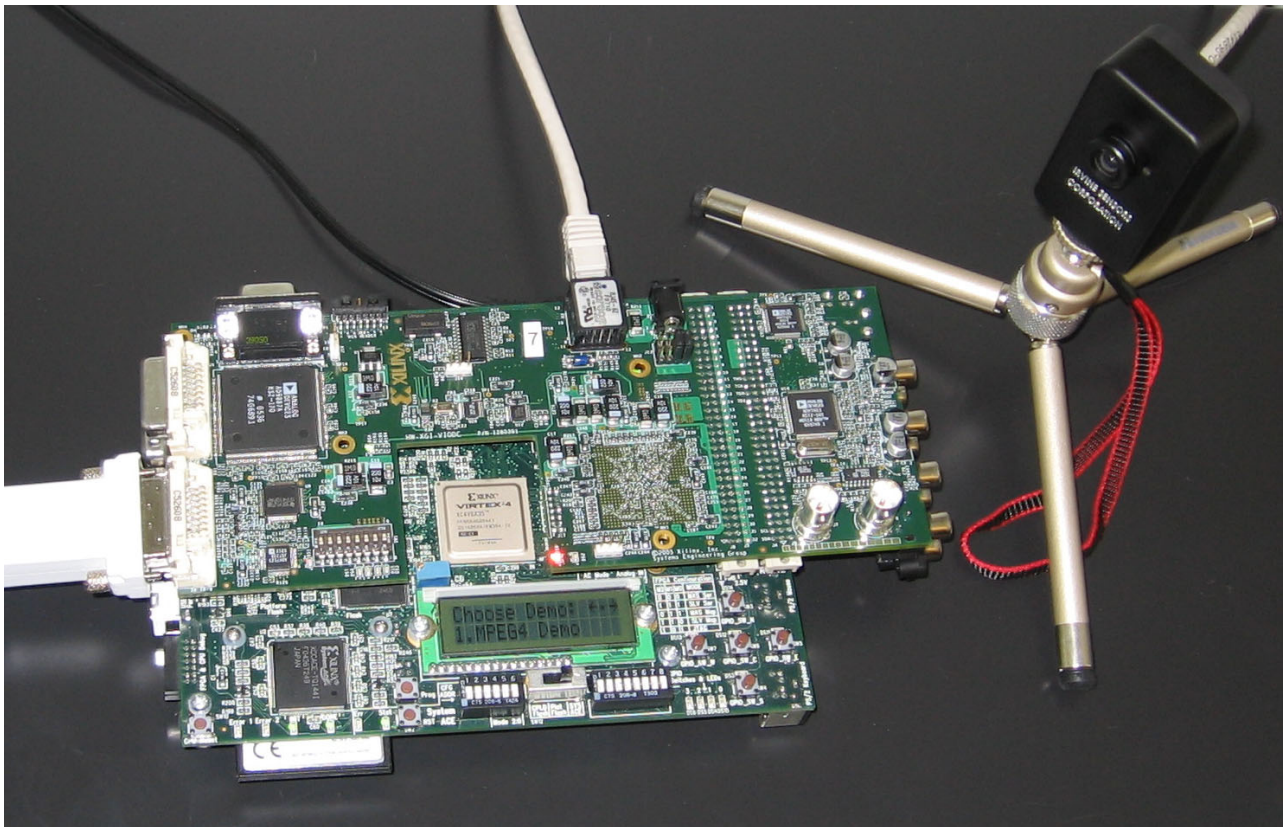

Figure 3: Connecting the VSK to the RGB LVDS Camera
2. Connect the LVDS RGB camera from Irvine Sensors to the RJ45 connector on the VIODC (Figure 3).